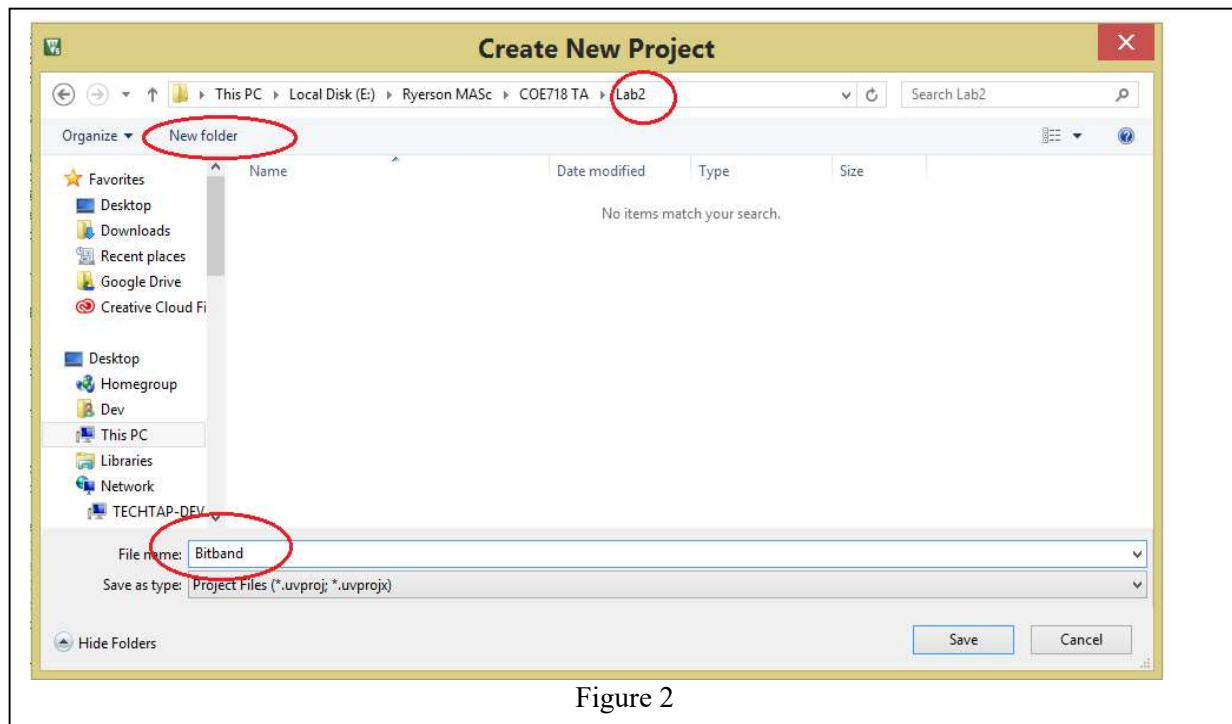

Figure 2
2. You should see a window like the one shown in Figure 2. Select the icon for "New Folder" and name your working folder "Lab2". Name the project as "Bitband" and Press Save.